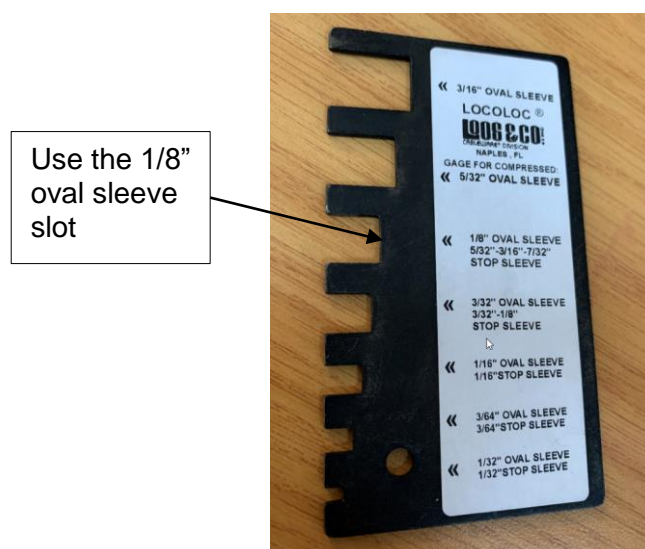

Figure 2 – 1/8" oval sleeve slot on Lococloc® go-no go sleeve gauge
2. Use the 1/8" oval sleeve slot on the Lococloc® go-no go sleeve gauge as shown in Figure 2. The crimps should pass into the slot easily.